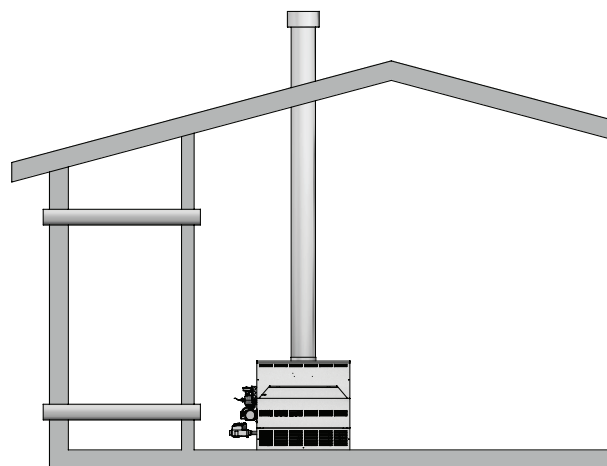

Figure 1-3_Combustion Air Through Ducts
2. If combustion and ventilation air is taken from the outdoors using a duct to deliver the air to the room where the appliance is installed, each of the two openings should be sized based on a minimum free area of one square inch per 2000 Btu/hr (11cm² per kW) (see FIG. 1-3).